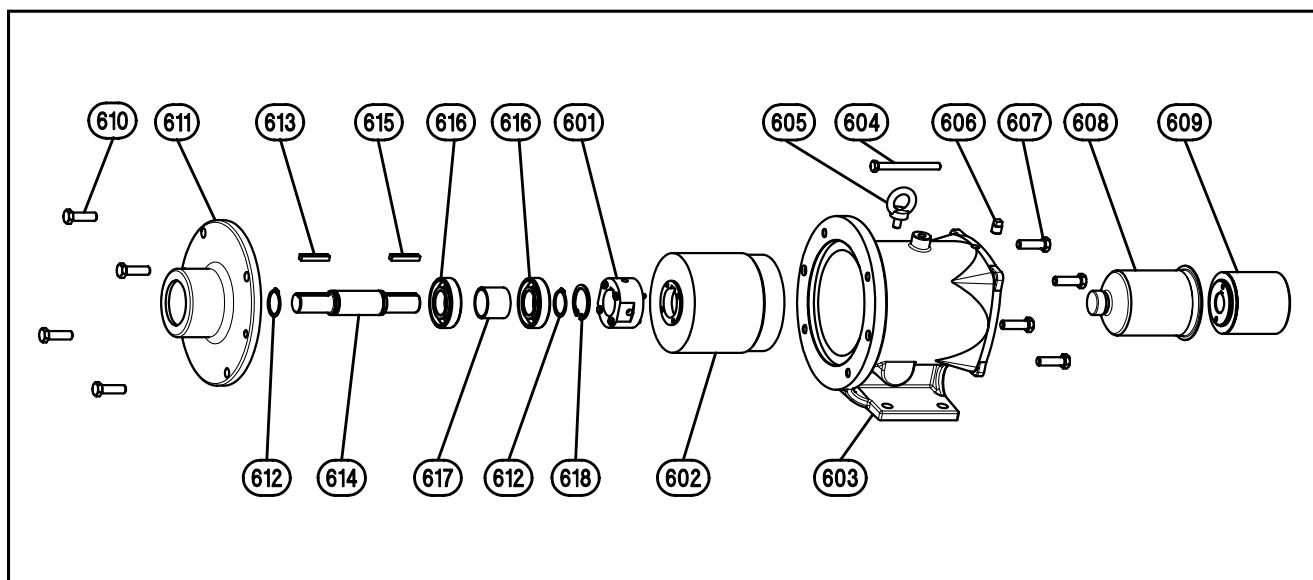
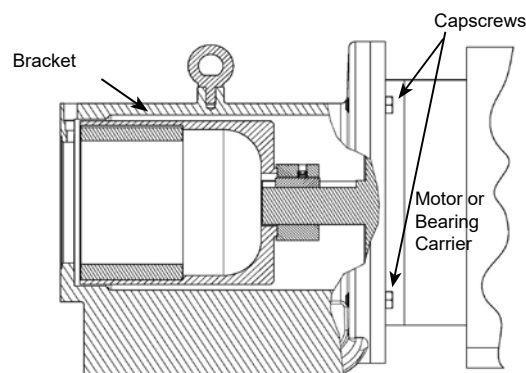

FIGURE 7
FIGURE 14
5. You should be able to visually inspect the outer magnets from the end of the bracket. If removal is necessary, start by removing the (4) capscrews (See Figure 14) and separate the bracket from the motor or bearing carrier. Loosen the 2 setscrews on the outer shell hub and slide the outer magnet assembly off the shaft. If the unit features a bearing carrier, the bearings should not require maintenance since they are sealed. If necessary, disassemble by removing the single internal retaining ring then press the shaft and bearings out of the housing. Remove the external retaining rings from the shaft to remove the bearings (Refer to Figure 7, page 6 and Figure 15, page 9).